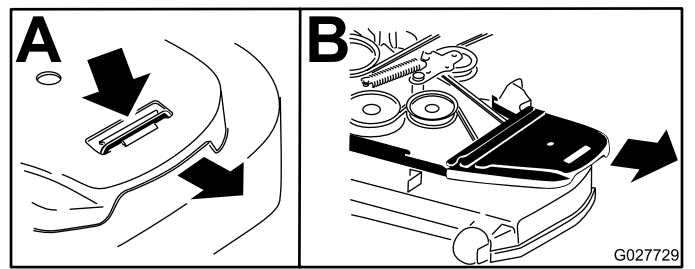

Figure 94
5. Remove the plastic belt cover (Figure 94).
12. Install the belt cover and the floor pan; refer to Figure 94 and Removing or Installing the Floor Pan \(page 41\).
4. Remove the belt covers (Figure 94).